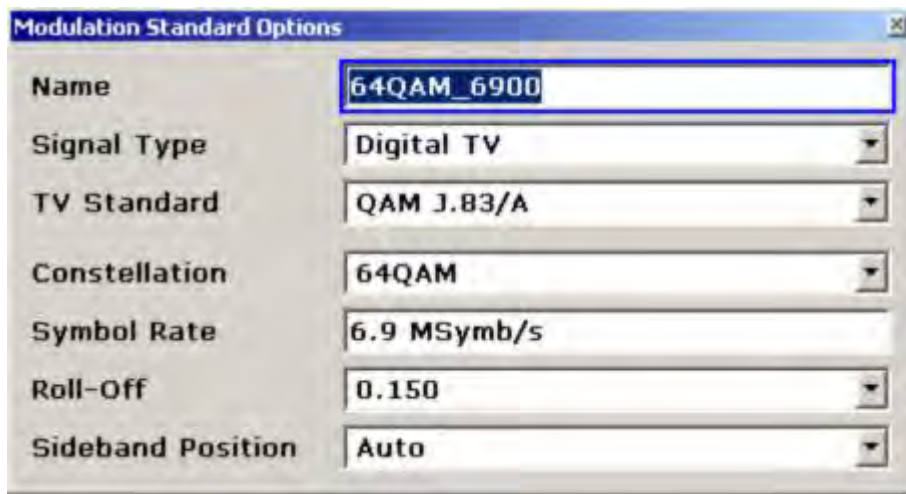

Fig. 2-52 Digital TV modulation standard 64QAM_6900
- The **Modulation Standard Options** dialog box should now look as in Fig. 2-52.